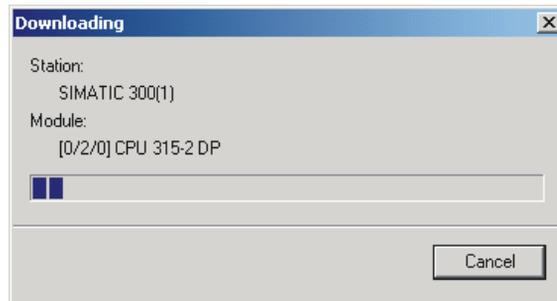

FIG. 168 DOWNLOADING CONFIGURATION PROMPT
Step 11. Click on OK. A prompt appears indicating that the Step 7 is downloading the configuration to the PLC. (See Fig. 168)